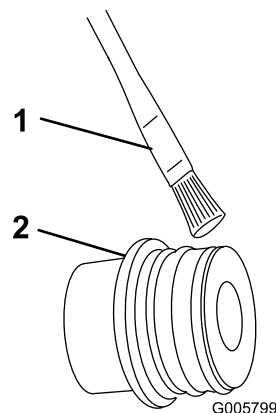

Figure 12
4. Brush a non-petroleum based lubricate such as vegetable oil on the bulkhead fitting reducer and O-ring (Figure 12)
3. Brush a non-petroleum based lubricate such as vegetable oil on the bulkhead fitting reducer (Figure 12).